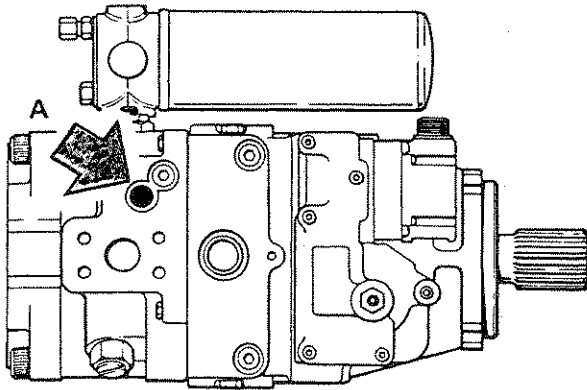

Fig. 55
3. Remove the 1/4" JIC cap on gauge port (A), see Fig. 55.